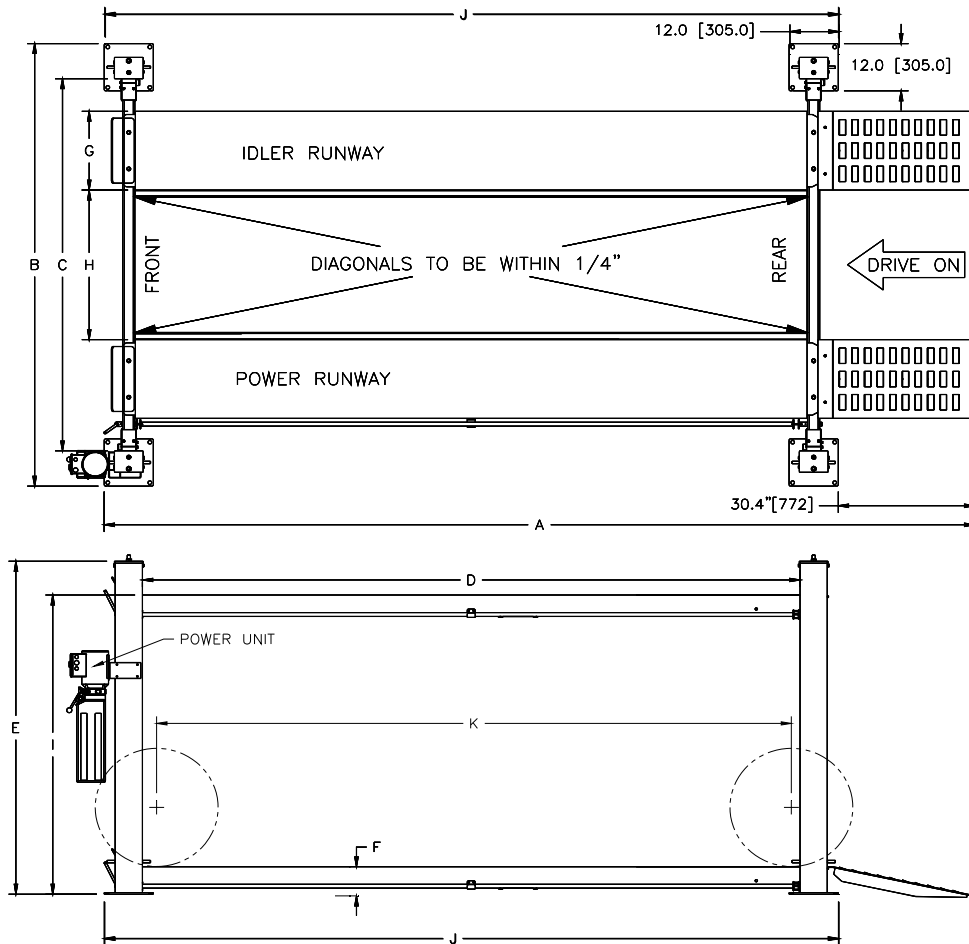
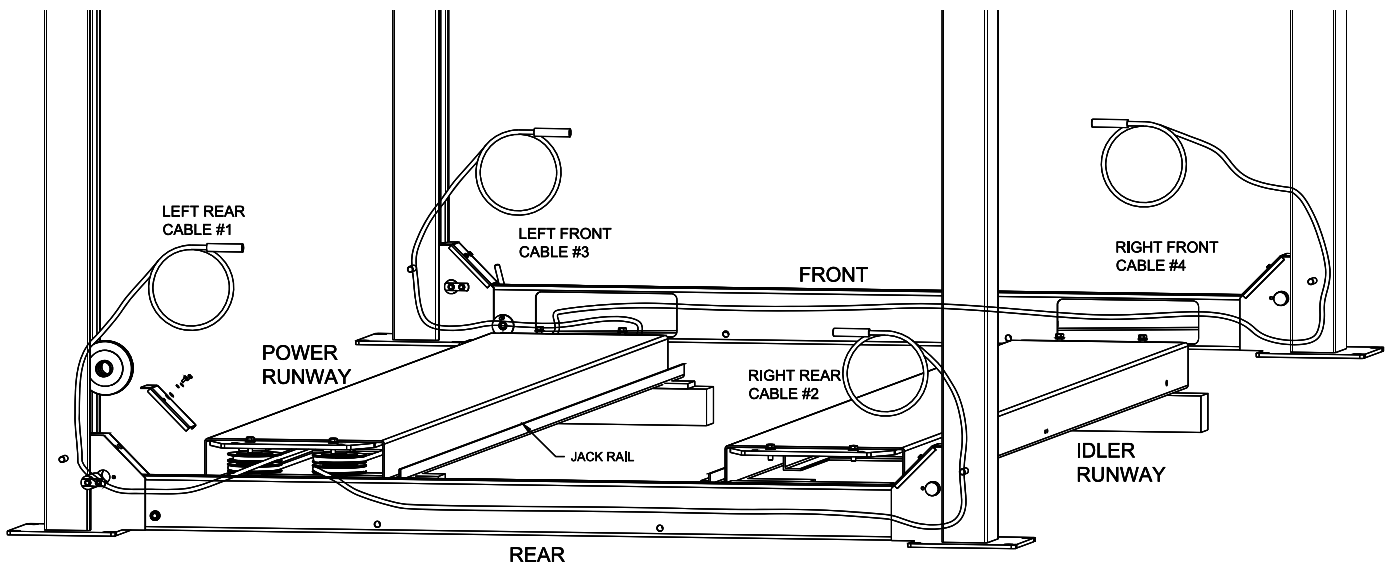

Fig 1 – General Specifications and Service Bay Layout
Fig 7 – Runway Layout
- 1) Lay out the service bay according to the architect's plans or owners instructions (*see Fig 1*). Be certain that the proper conditions exist, see pages 2 & 3.
- 5) Disassembly each column assembly place the columns close to each corner per layout (column with the power unit bracket goes at the front left column per **Fig 1**).
- 6) With the runways spaced per **Fig 1** and blocked per **Fig 7**, using four 30" long 4x4's spanning the width of the runway and four 12" long 1x4's to shim up the jack-rail side of the runway.
- 10) Cable #1 & #2 should be extending out from the rear of the power runway and cable #3 & #4 from the front of the power runway, **Fig 7**.
- 11) Position the front and rear cross beams, **Fig 7**.